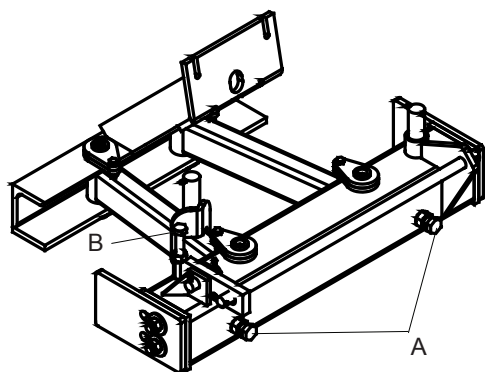

Figure 1
Scissor swing/plate swing on tractor - Turn leveling bolts (A) (figure 1 and 2) in or out in equal amounts. If the front of the swing assembly is high, turn the leveling bolts in. If it is low, turn the leveling bolts out.
Scissor swing - Turn adjustment screw (B) (figure 1) in to lower the right-hand side of the brush head assembly. Turn it out to lower the left-hand side.